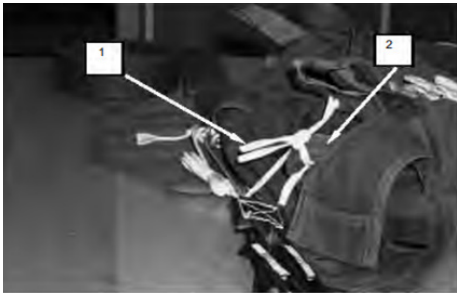

Figure 46
3. Tie the ends of the webbing (Figure 46, item 1) over the cotton buffer loop (Figure 46, item 2) using a surgeon's knot locking knot, allowing for a 3-inch loop between the vent loop and cotton buffer loop. Trim running ends to approximately 2 inches.